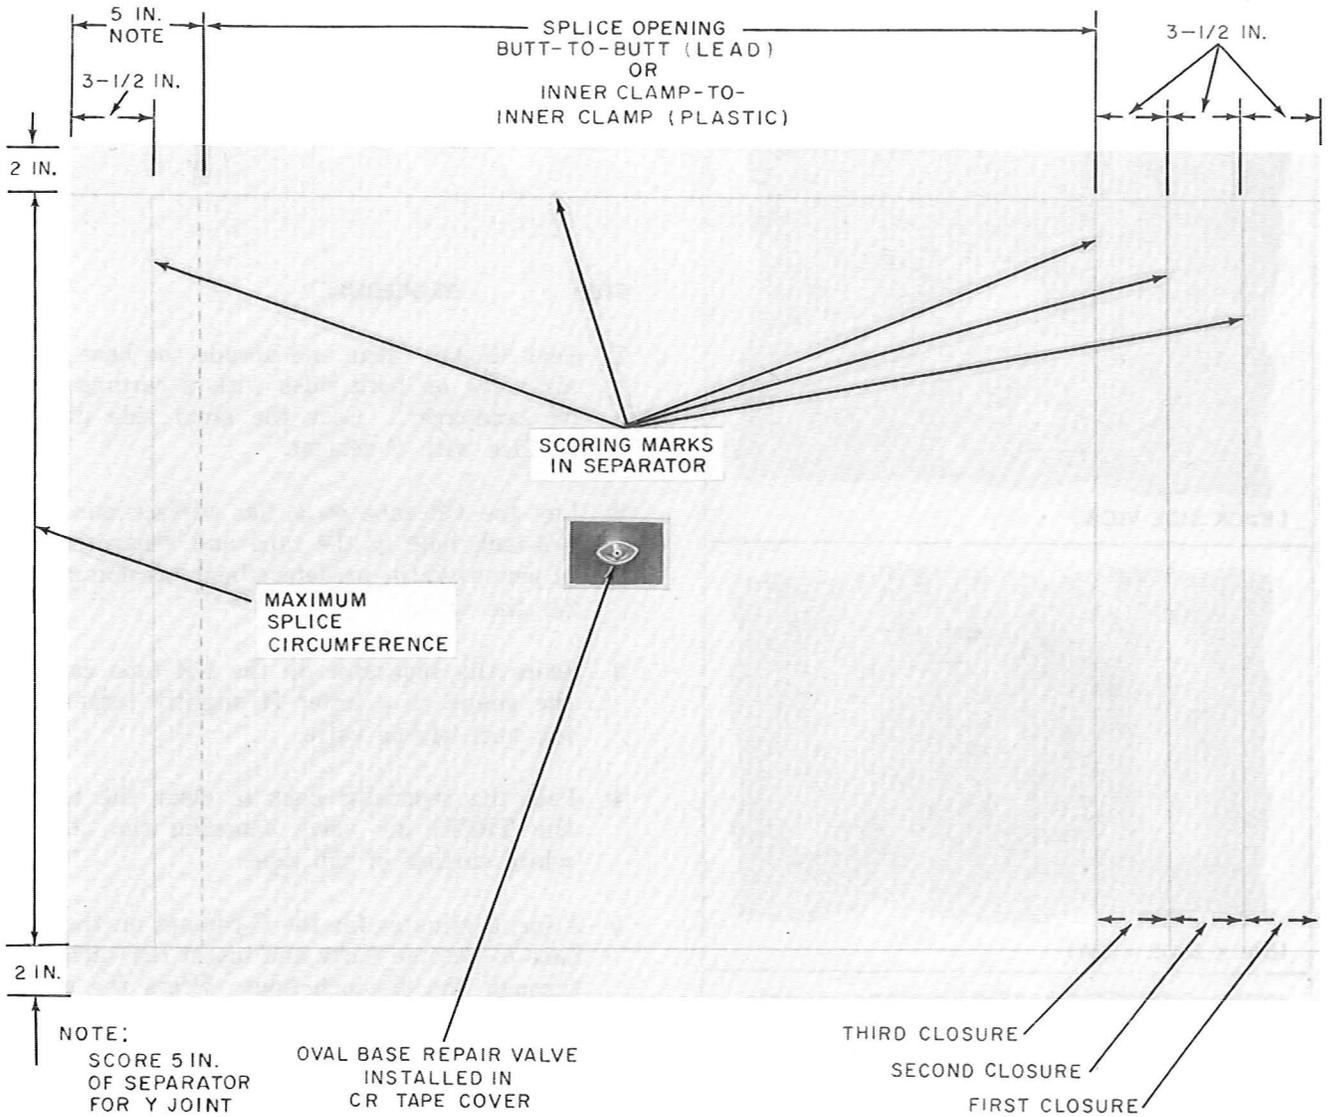

Fig. 1—Scoring CR Tape Separator
**2.05** If the CR tape cover is to be used only once, score the separator with splicing scissors as shown in Fig. 1. Score additional 3-1/2 inch strips as necessary for second and third reuse of the cover. **Do not remove the separator** until the CR tape is in place over the splice. The purpose of scoring the separator is to facilitate its removal after the tape cover is placed over the splice opening.
8.01 If a splice containing at least one non-Y-joint is to be covered more than one time before it is permanently closed, it is possible to reuse the CR tape by adding 3-1/2 inches to the single use length for each time the cover is to be opened. All operations are identical to those used for single closings and include the placing of the crotch saddle at any Y-joint. The only two changes from single use are: the separator should be scored 3-1/2 inches for each opening (Fig. 1), and the location of the B sealing tape on the single cable side of the splice. Use new B sealing tape each time the CR cover is opened and closed.